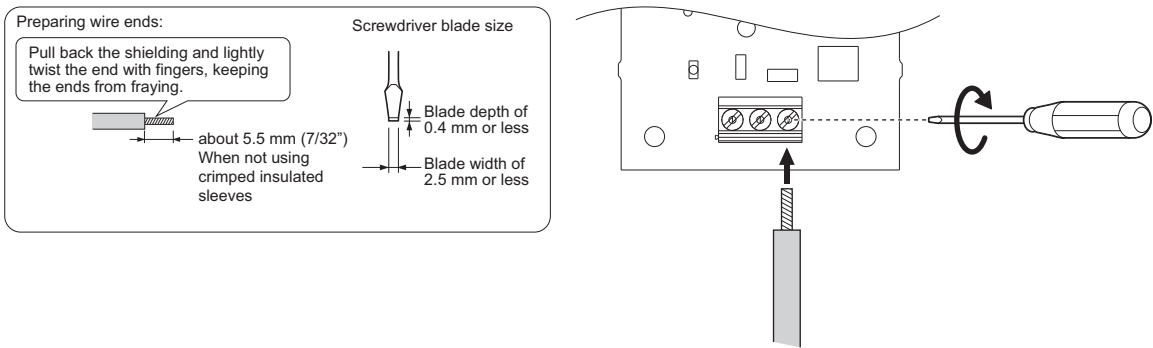

Figure 3.57 Wire the Option Plug
2. Use a flat-blade screwdriver to loosen the screws on the terminal block TB1, connect wiring to the 24, 0, and FE terminals as shown in Figure 3.57, then tighten the terminal screws to hold wiring in place.